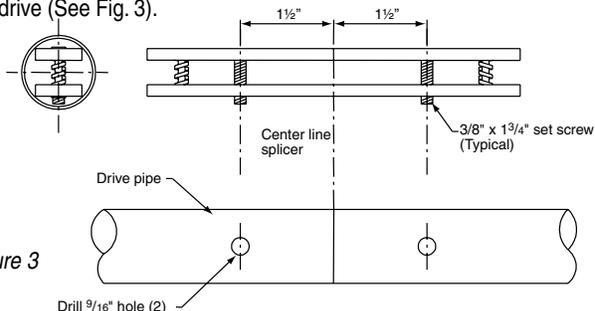

Figure 3
- ⑤ Raise drive pipe section that attaches to the winch. Allow to rest on motor and drive pipe support assemblies.
- ⑥ Raise other drive pipe sections. Once the drive pipe is resting in the drive pipe support assemblies, slide the proper number of cable guide sleeves onto the pipe.
- ⑦ Attach pipes together with drive pipe splicers to obtain one long continuous run of drive (See Fig. 3).